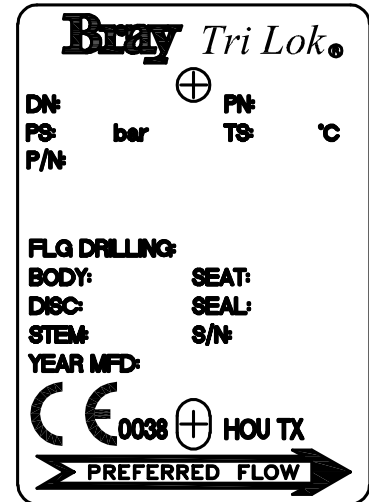

Figure 1 - Identification Tag
12.1 All Tri Lok (EU-Version) valves are provided with an identification tag (**Figure 1**) printed with the following data: